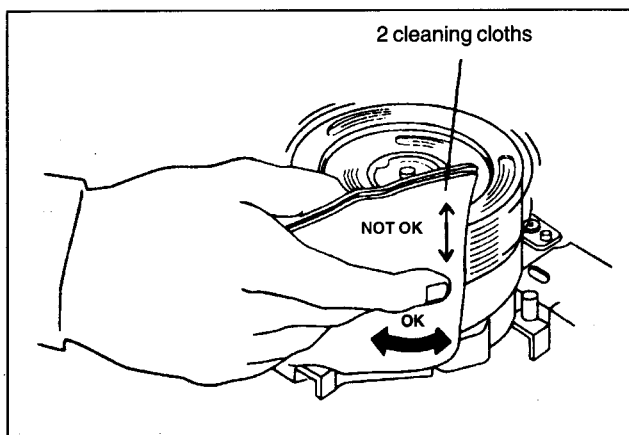

Fig. M1
3. Use two cleaning cloths moistened with 91% Isopropyl alcohol. Press them gently against the rotating video heads (see fig. M1).